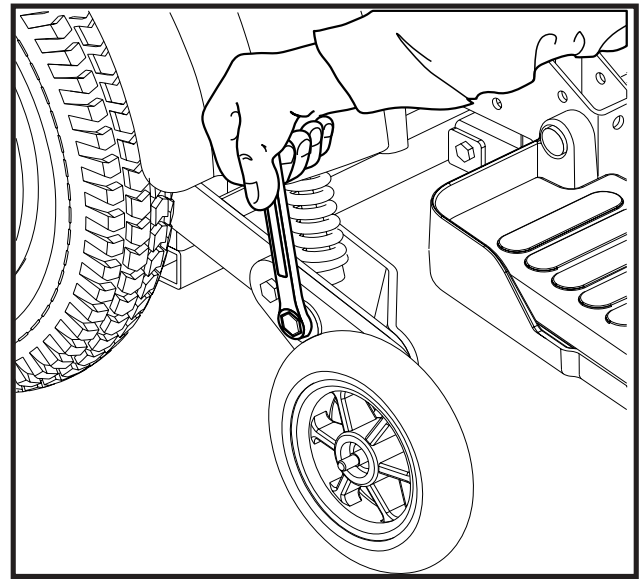

Figure 21. Anti-Tip Wheel Adjustment (Cam)
3. Place your wrench on the adjustable cam located on the other side of the locknut. See figure 21.